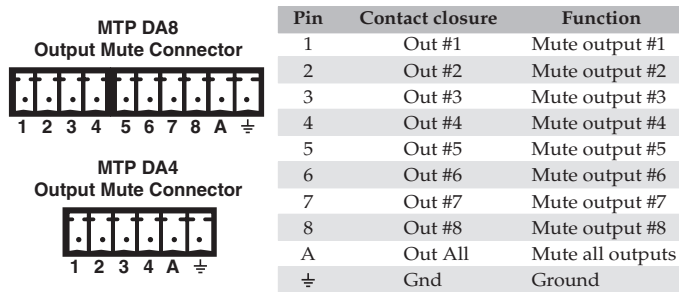

Figure 7 — Mute connector and pinout
- ④ **Output Mute connections** — The Output Mute connector provides a way to mute (blank) any or all TP outputs. Each numbered pin of the captive screw connector is assigned to one of the DA's outputs (pin A is assigned to all DA outputs) (figure 7). When you short and latch a numbered pin or pins to ground, the DA mutes the associated output(s).